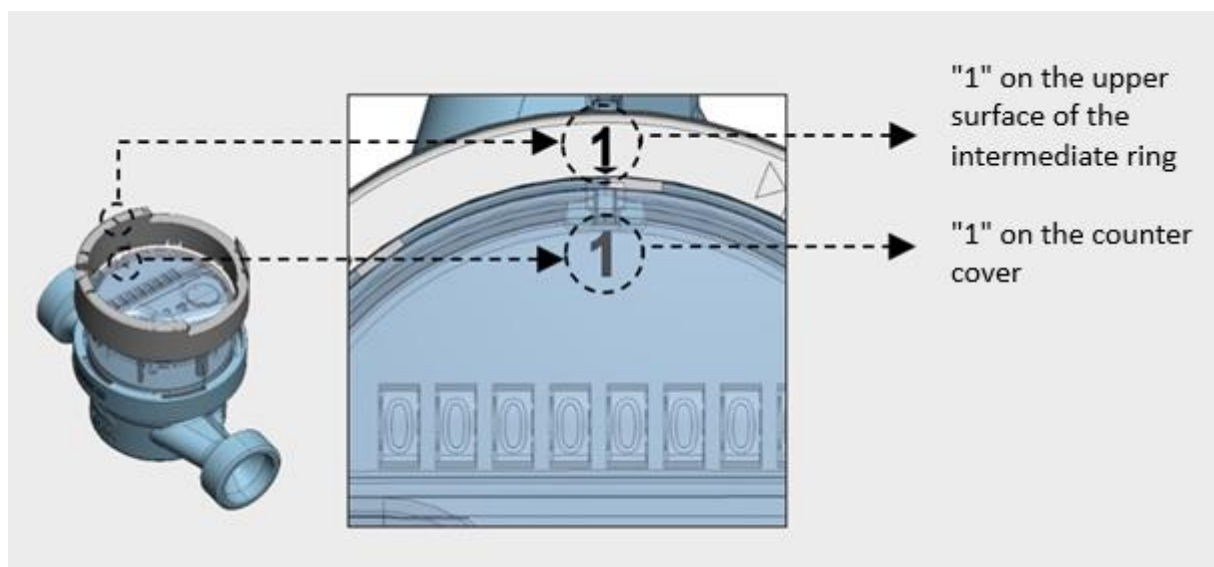

Fig. 8. Fitting the intermediate ring with a cover onto the water meter dial.
3. When fitting the pre-assembled intermediate ring and locking ring assembly onto the counter cover, start by aligning the '1' on the intermediate ring with the '1' on the counter cover, as shown in Fig. 8.